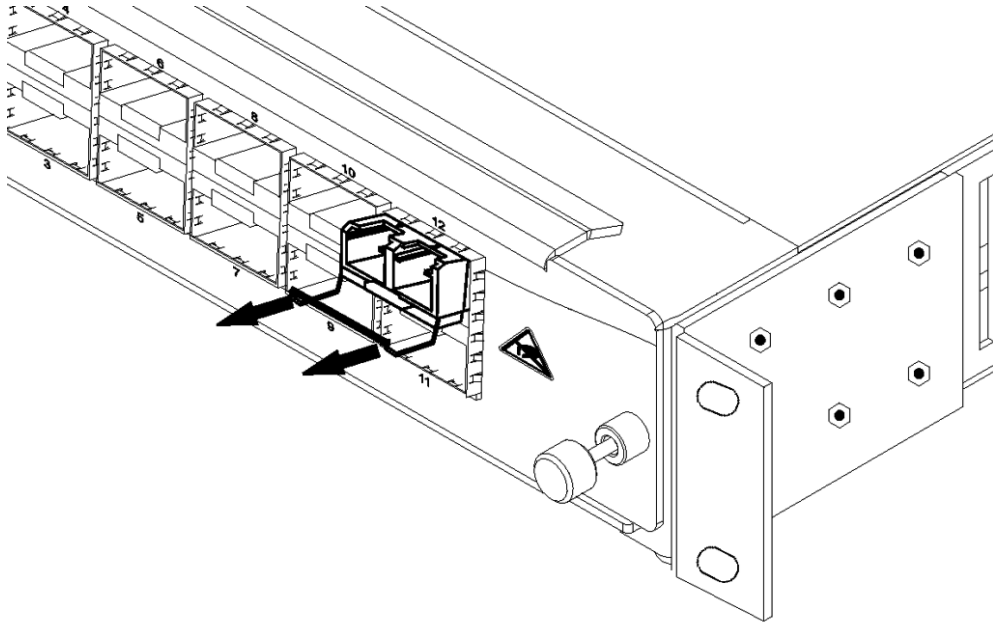

Figure 41. Removing the SFP Module
- Pull the module by the latch, according to Figure 41.